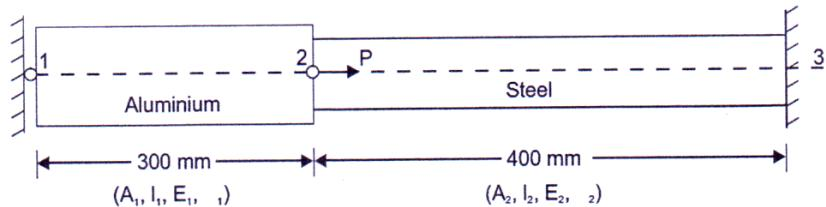

Figure 3
- Q2)** a) An axial load $P=400 \text{ kN}$ is applied on a stepped steel bar as shown Figure 3. The temperature rise of 30°C . Given: [12]